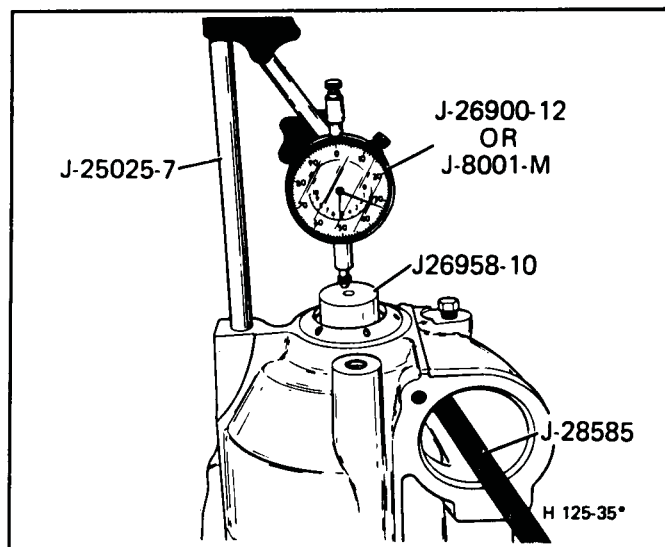

Figure 37 Final Drive End Play Selective Thrust Washer Measurement (680)
- Clutch plates (658) & Backing plate (659)
- Roller clutch assembly (665)
- Internal gear (668)
- Shaft (669)
**FINAL DRIVE ASSEMBLY****Measure (Figures 37, 38, 39 and 40)****Tools Required:**
For correct washer selection see Figure 37.